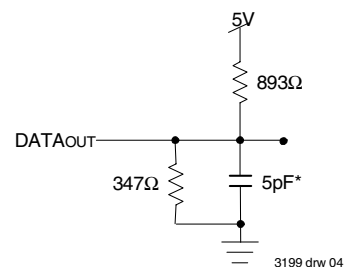

Figure 2. Output Test Load
- Transition is measured 0mV from Low or High-impedance voltage with Output Test Load (Figure 2).
7. This parameter is guaranteed by device characterization, but is not production tested. Transition is measured 0mV from steady state with the Output Test Load (Figure 2).